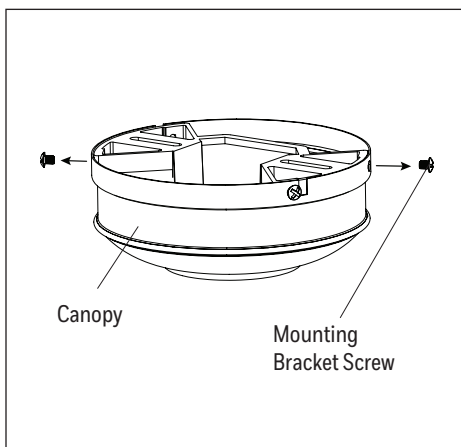

Figure 2.1
1. Loosen all four mounting bracket screws and completely remove the two screws from the round holes in the canopy. Then remove mounting bracket from the canopy and save them for later. Remove the canopy from the mounting bracket (Figure 2.1).